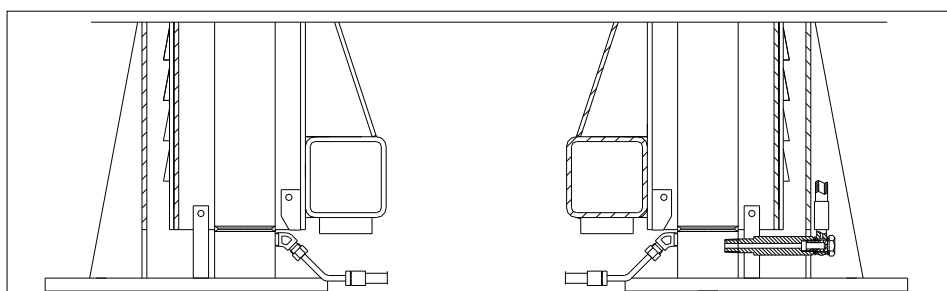

Fig.36
4. Connect the high-pressure hose according to Fig.36. First connect the hose with tri-joint under the main column and the bend under the sub-column. Fix them after upright the columns.